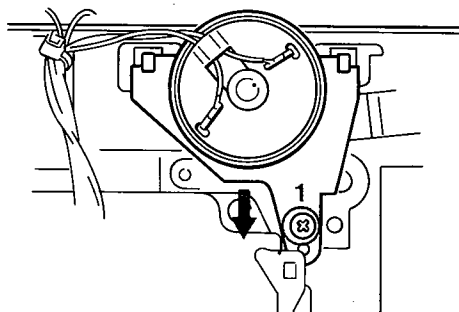

Fig. 12
- Remove screw ① in fig. 12 and then remove the reel motor unit.